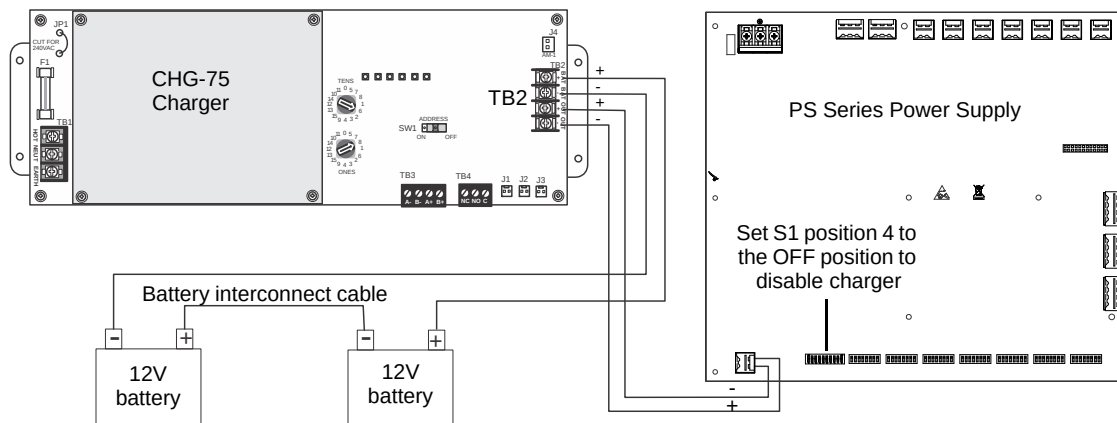

Figure 2.10 Connecting the Power Supply to a CHG-75 Charger
- Connect the battery cables between TB15 (+ and –) on the SK-PS and the CHG-75 charger output circuit (TB2: Out+ and Out–) as shown in Figure 2.10. Be certain to observe polarity.